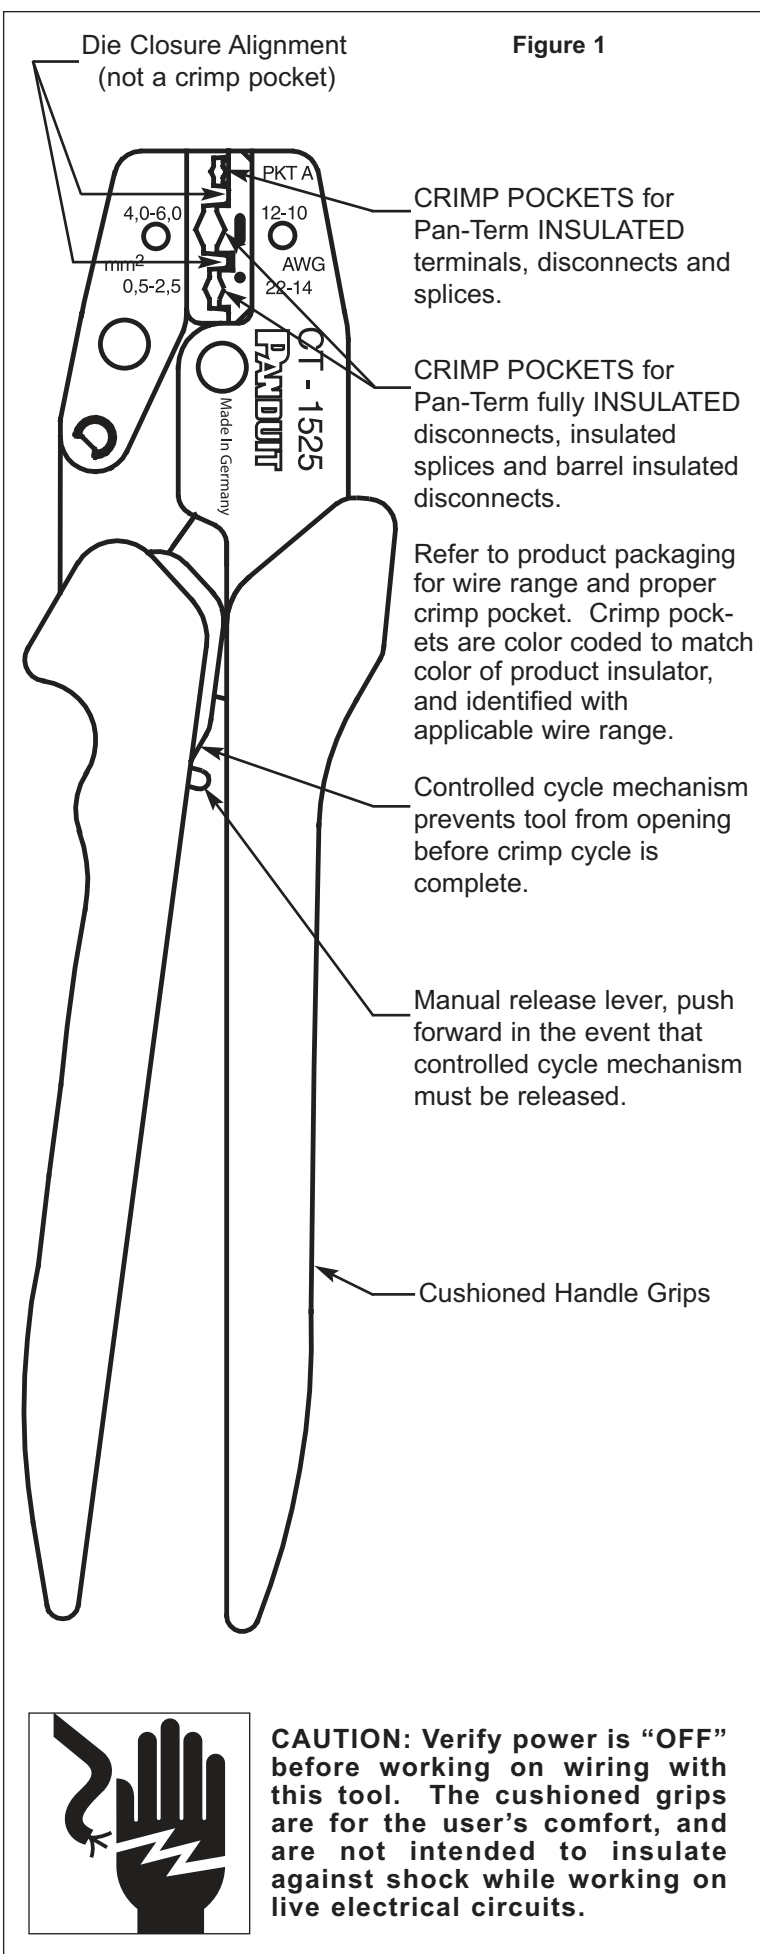
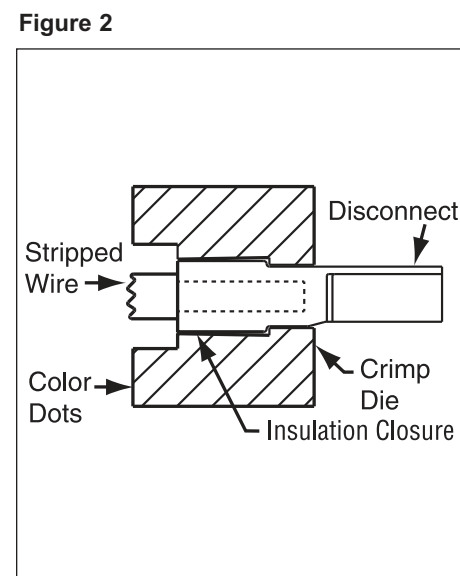
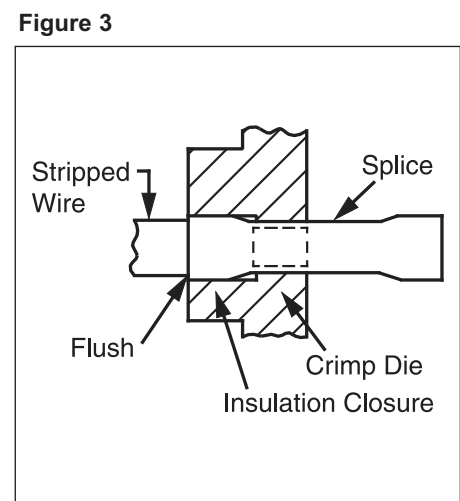

Figure 1
Figure 2
Figure 3
1. With the handles in the **open** position, and the back of the terminal tongue turned toward the color dots, insert the terminal into the proper crimp pocket (See Figure 1). Refer to product packaging for selection of proper crimp pocket.
1. With the handles in the **open** position, insert the disconnect in the proper crimp pocket (See Figure 1), so that the barrel is flush with the crimp die (See Figure 2). Refer to product packaging for selection of proper crimp pocket.
1. With the handles in the **open** position, insert the splice into the proper crimp pocket (See Figure 1) so that the crimp is located on the barrel of the splice (See Figure 3). Refer to product packaging for selection of proper crimp pocket.